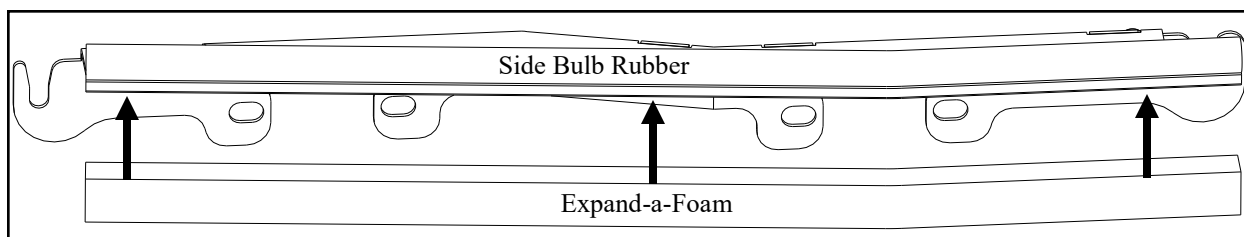

Figure 1.1 Install Expand-a-foam
1.1 Orient the driver's side top mount as shown in Figure 1.1 with the rubber on the top. Cut a piece of expand-a-foam to match the length of rubber. Adhere the foam to the rubber grip on the underside of the mount. Align the foam so that it is even with the outer edge of the rubber. Clean the rubber to remove any oils that may be on it before applying the foam. Apply the foam at room temperature.
1.2 Using a 14mm socket, remove and discard the four bolts that hold one side of the upper cross members of the roll cage in place. Install the top mount as shown in Figure 1.1. Be careful not to peel the expanding foam off of the rubber when installing. The foam should be tightly compressed along the top of the roll cage.